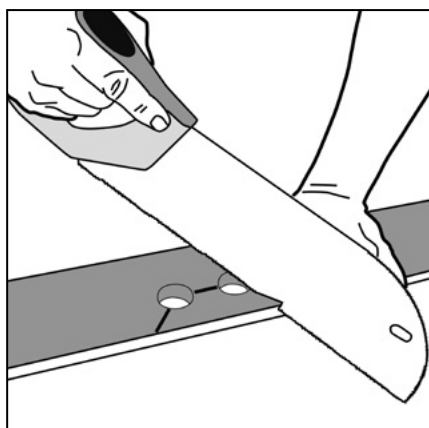

Figure 30 Radiator pipes
- > Further drill the hole with a spade bit wide enough to accommodate both the diameter of the pipe and the required expansion gap. Cut around as shown with a saw or sharp utility knife; (fig. 30).